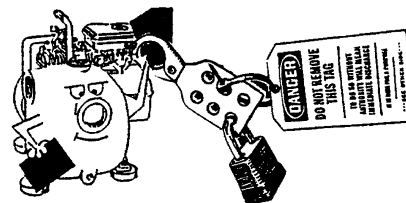

FIG. 11
- **If an unsafe condition cannot be remedied immediately, notify your supervisor and tagout/lockout** the pump on the start switch and/or appropriate, prominent location. (FIG. 11)
**BEFORE ANY** maintenance **work** is to be done, a LOCKOUT/TAGOUT standard device and procedure should be implemented. Prior to removal of LOCKOUT/TAGOUT, the equipment must be fully operational and all personnel accounted for. Except in cases of emergency, the removal of the LOCKOUT/TAGOUT should be done **ONLY** by the initiating person prior to the return to start-up (see page 12, Fig. 11).
**NEVER** perform any work on the equipment unless authorized to do so. (FIG. 11) Before performing any maintenance or repair work, consult the manufacturer's instruction manual for recommended procedures.